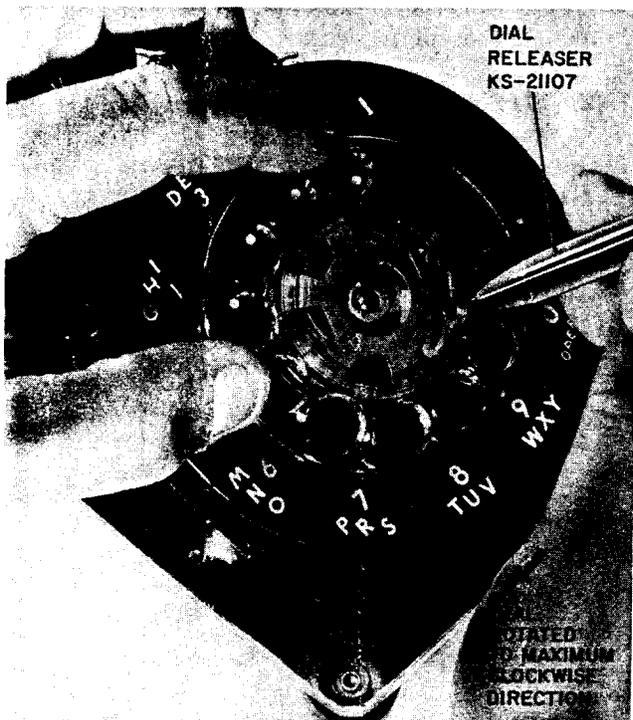

Fig. 5—Removing Plastic Fingerwheel
- (1) Rotate fingerwheel as far as possible in clockwise direction.
(2) Insert KS-21107 releaser or equivalent into small hole located in edge of raised center of fingerwheel (Fig. 5) and push down to disengage the fingerwheel clamp spring.
(3) When clamp spring releases, remove fingerwheel, by turning fingerwheel slightly further in clockwise direction and then lifting fingerwheel.